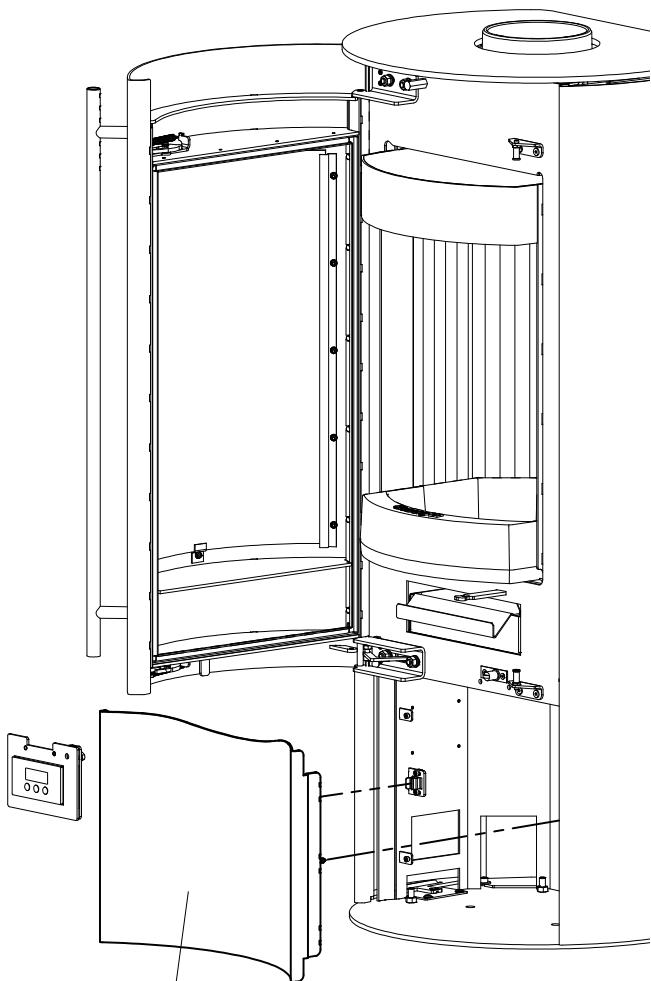

Fig.3
- Carefully pull the lower front shield (Pos.8, Fig.3) to the front.
- Install the lower front shield (8) (Fig.3). Guide the cabled electronic over the lower front shield in front of the unit in the process.